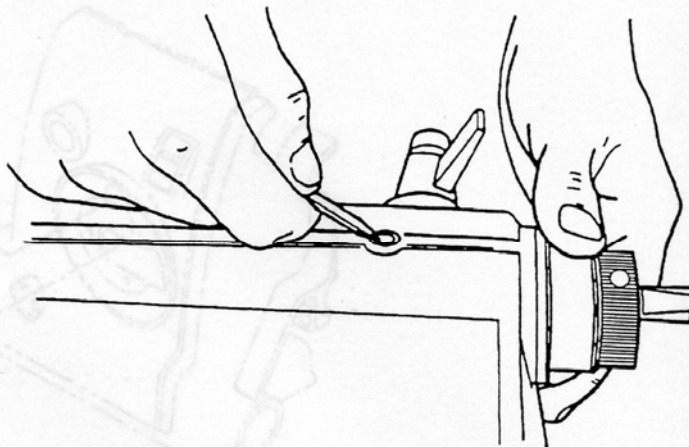
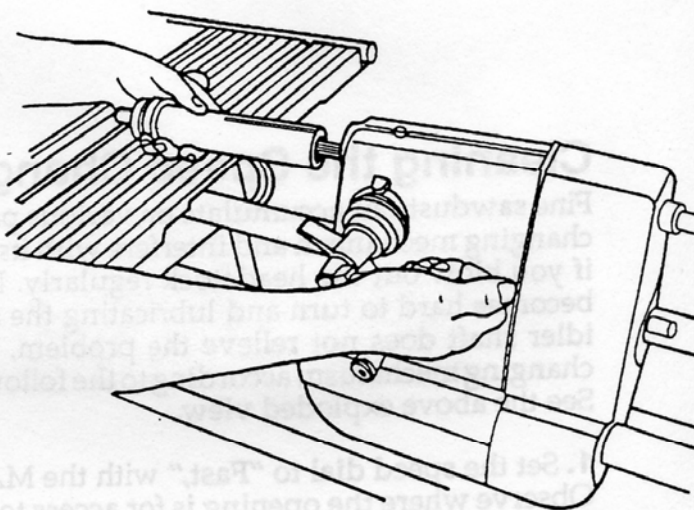
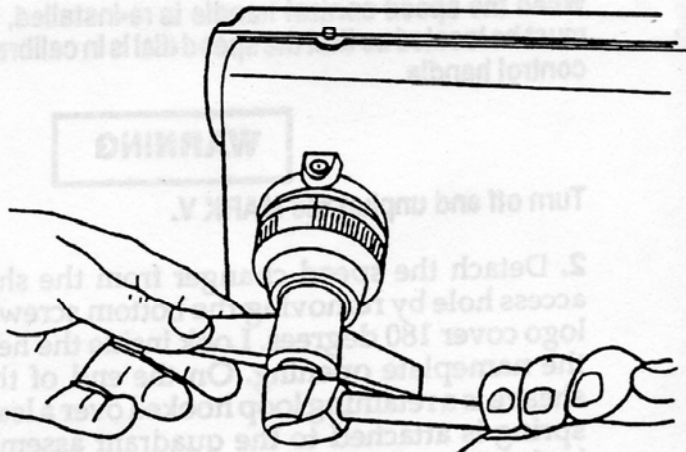

Fig. 29
Fig. 30
Fig. 31
1. Remove the quill. On top of the headstock, between the quill lock and quill feed stop, there is a setscrew that keeps the quill from advancing all the way out of the headstock. If your machine has never been worked on before, this screw is covered with gray putty. Dig out the putty with a pen knife, and back out the setscrew 2 full turns. See Fig. 29. Advance the quill until you feel the rack disengage from the quill feed pinion. Do not let go of the quill feed lever. Continue to hold onto the lever and pull the quill assembly out of the headstock. See Fig. 30. When you have removed the quill assembly, set the quill feed stop at 4-1/4". Tighten the stop lock. See Fig. 31.